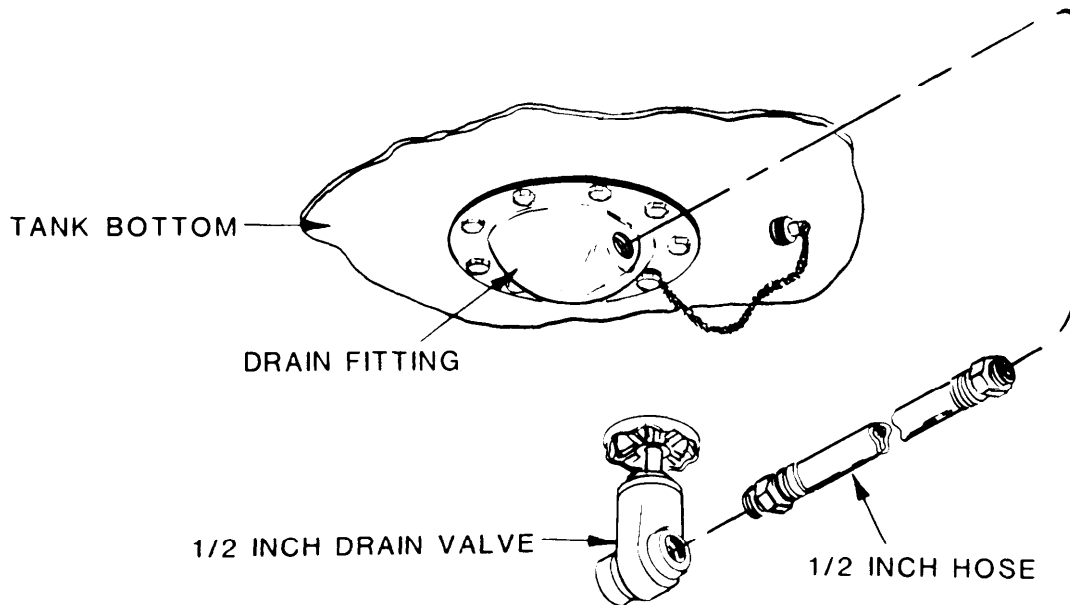

Figure 2-3. Drain Valve
- c. One-Half Inch Drain Valve (See Figure 2-3). The drain valve is used to remove fuel or trapped moisture from the bottom of the tank. The drain valve connects to the tank using an eight foot section of 1/2 inch hose. When the valve handle is fully rotated counterclockwise, the valve is open. Rotating the handle fully clockwise closes the valve.